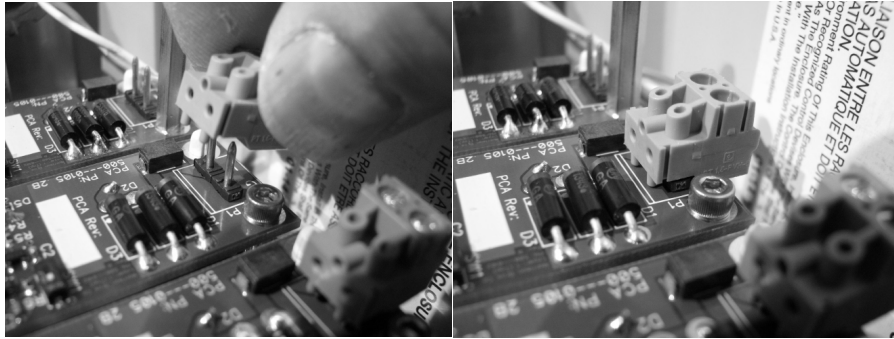

Figure 3 Plug the Channel Input Connector onto the Channel Input Pins of the Alarm Circuit Board
- b. Connect the two wires from each input device to the two screw terminals for each channel input of the Channel Input Connector (P1) for each Input Module (see Figure 2 and Figure 3).
- d. Plug the connector onto the Channel Input pins of the Dry Contact Input Module (see Figure 3).